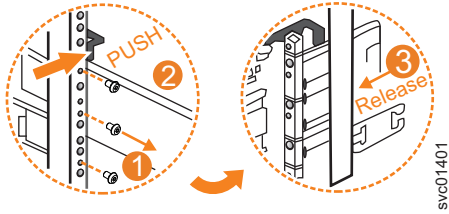

Figure 113. Remove the rail assembly from the rear frame bracket
3. Remove the two screws that attach the inner rail section to the rear bracket, as shown in Figure 113 on page 120.
4. Pull the rail forward, away from the rear bracket, as shown in Figure 113.